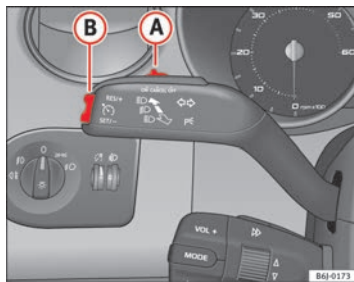

Fig. 116 Turn signal and main beam headlight lever: switch and rocker switch for the cruise control
- Move the control ⇒ fig. 116 (A) to the left to **ON**.